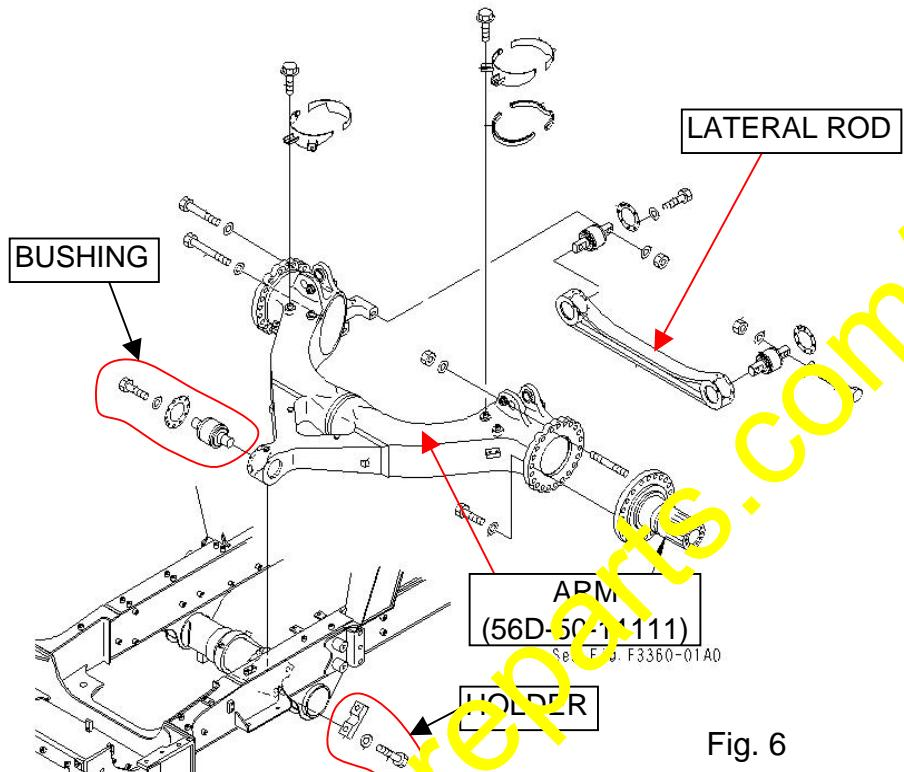

Fig. 6
- 7) Remove the lateral rod. (Refer to Fig. 6.)
- 8) Remove the holder. (Refer to Fig. 6.)
- 9) Remove the arm (56D-50-11111). (Refer to Fig. 6.)
- 10) Remove the center bushing. (Refer to Fig. 6.)